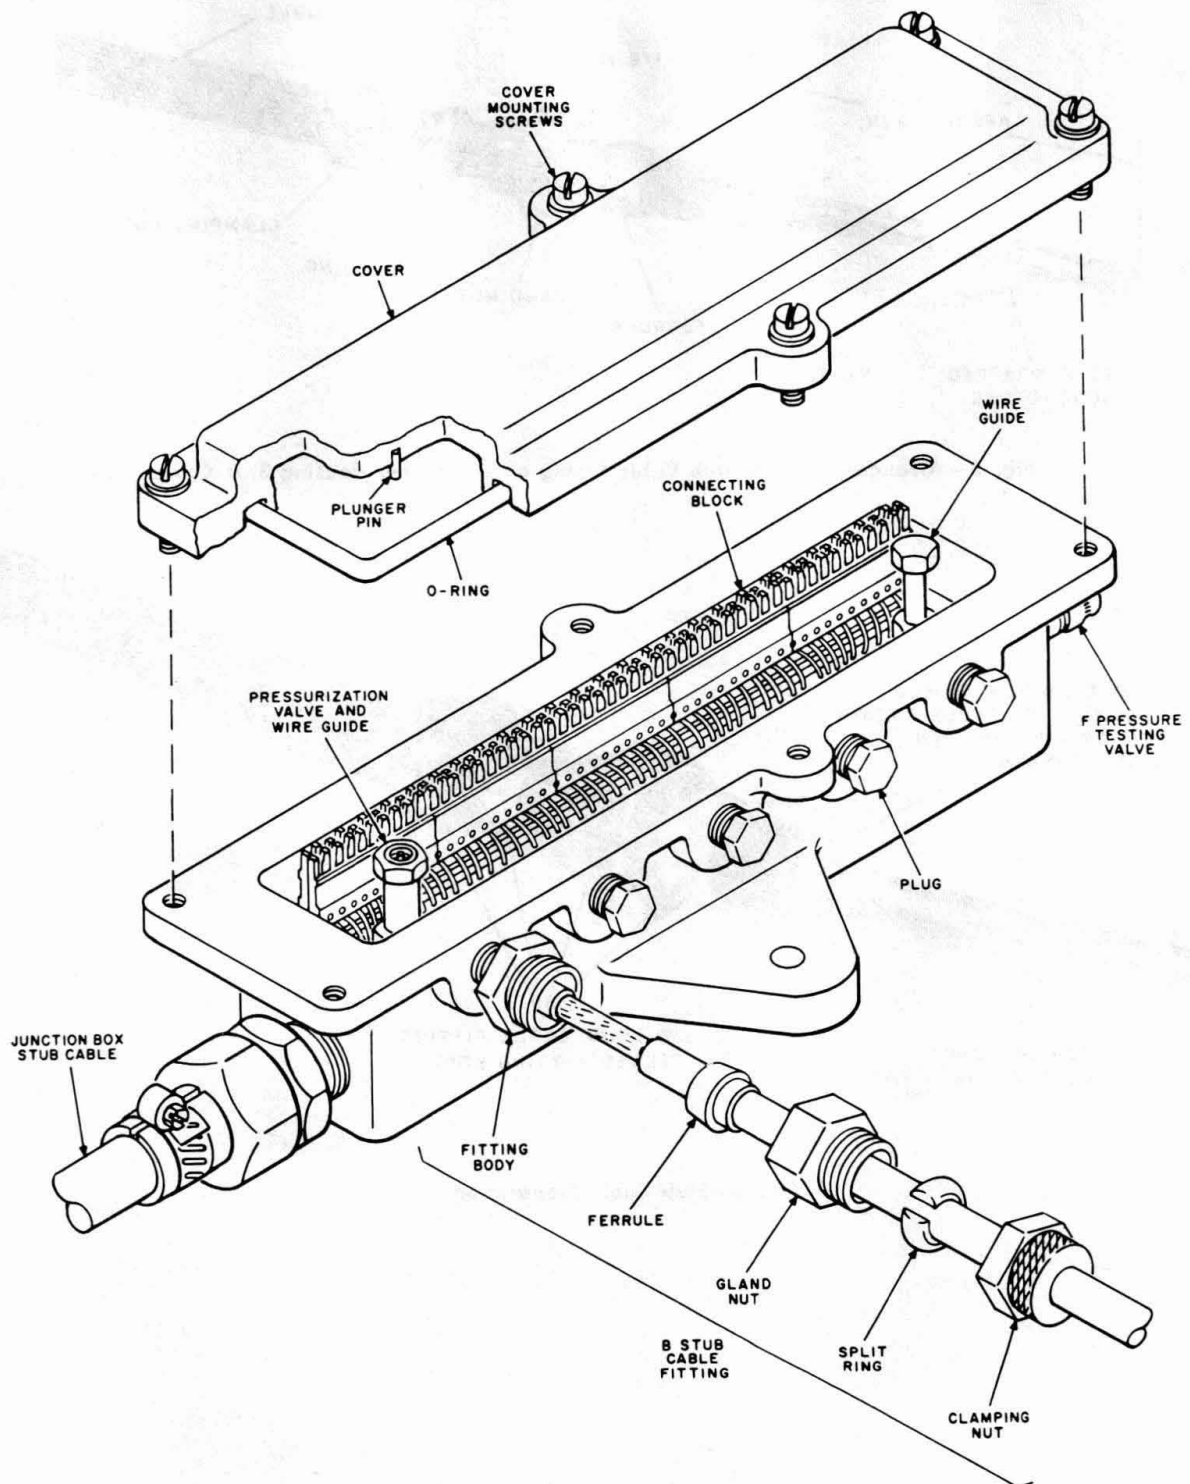

Fig. 7—Preparation of C Junction Box
6.11 Prepare the C junction box for termination of the C transducer housing stub cable conductors as illustrated in Fig. 7 and as follows: